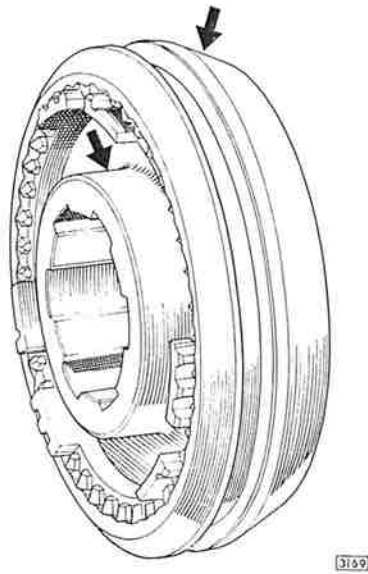

Fig. 8. *Assembly of synchro hub.*
- (i) The wide boss of the hub on the opposite side to the wide chamfer end of the sleeve (see Fig. 8).